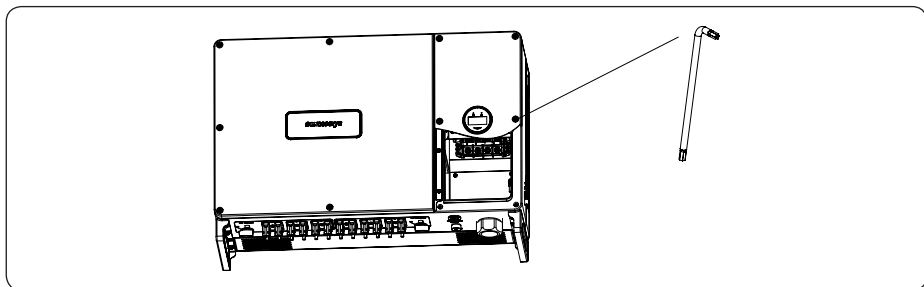

Figure 4-14
2) Take out the ring spanner from the accessory box and remove the right roof cover after unscrewed the screws on it, as shown in Figure 4-14: